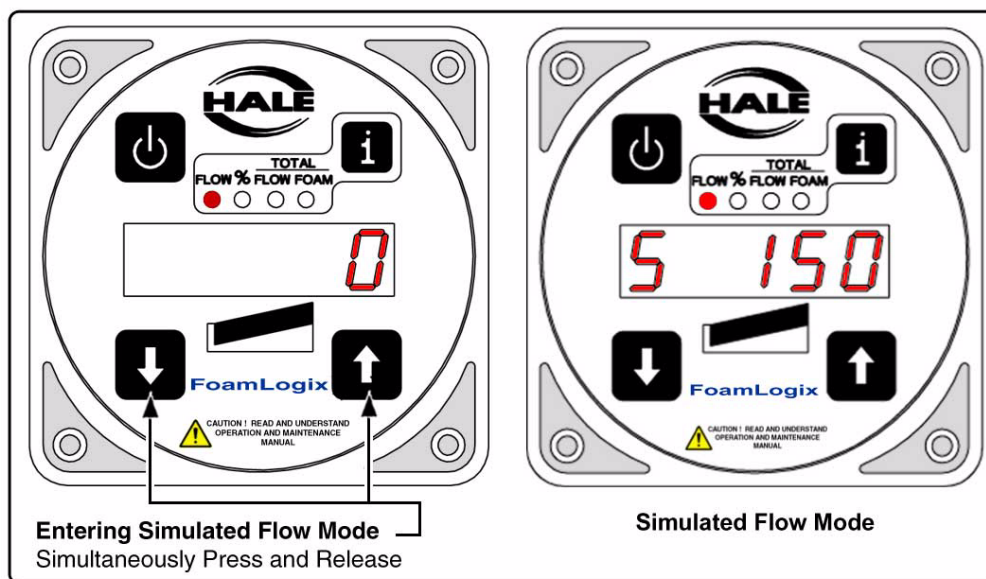

Figure 5-7: Simulated Flow Display Sequence
The Simulated Flow mode of the Hale FoamLogix system allows operation of the foam pump without discharging water through a foam capable discharge or when the flow sensor is not functioning. (See Figure 5-7: “Simulated Flow Display Sequence,” on page 134.)
6. The display shows **S 150** (or other preset default value) and the **FLOW** LED illuminates. (See Figure 5-7: "Simulated Flow Display Sequence," on page 134.)